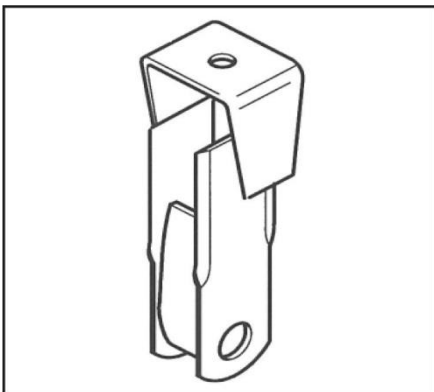

Figure 7.12
- Double with Spacer (Figure 7.12);